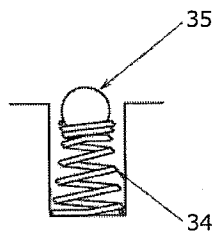

Fig.24
- 3) Assemble Cylinder(10) and Cylinder holder(20) so that the distance between Bearing nut(16) and Cylinder is the same as the distance measured during disassembly.
- 4) Install Spring(34) as shown in Fig. 24.